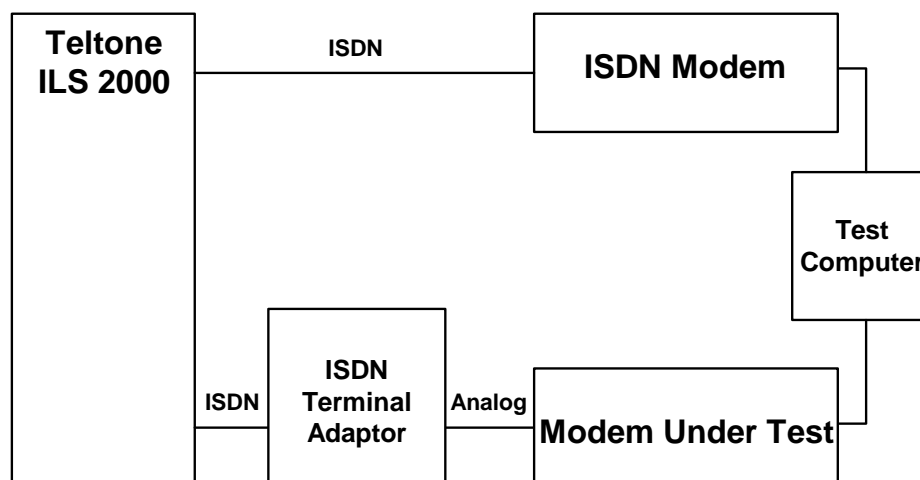

Figure 47. V.90 Modem Functional Test Connection
V.90 modems must be tested with a digital modem, such as the USR Courier I. If a digital modem isn't used as illustrated in Figure 47, the highest connection speed a V.90 modem will support is 33.6 kbps. A call can be placed or received in either direction at the speed set in the modems. A test script must be written for a computer to control the dialing, monitor the call progress, send a file, and compare the received and sent files. Figure 47 illustrates this test configuration.